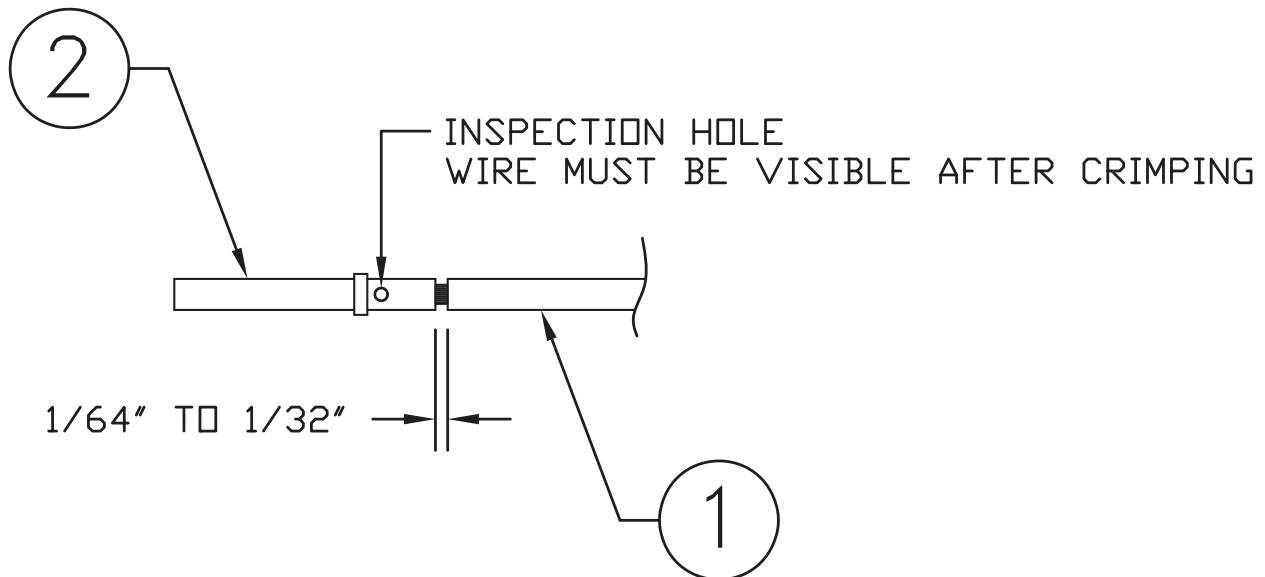
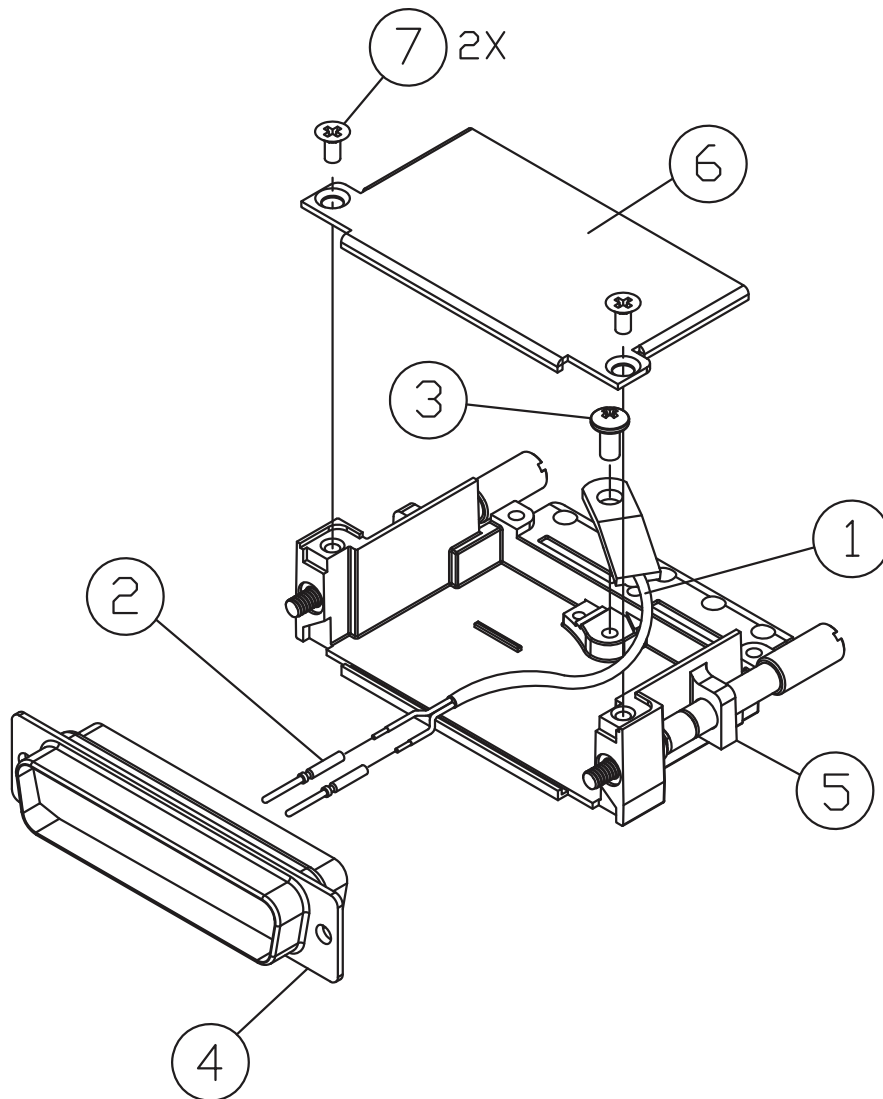

Figure 22-10 Insulation/Contact Clearance
Figure 22-11 Jackscrew Backshell Thermocouple Installation
Table 22-5 lists parts needed to install a Thermocouple, the item numbers correspond to Figure 22-10 and Figure 22-11. Parts for this installation are included in the Thermocouple Kit (011-00981-00), which is included in the G3X w/GSU 73 Installation Kit (K10-00017-00).
- Strip back approximately 0.17 inches of insulation from both the positive and negative thermocouple leads (item 1, Figure 22-10) and crimp a pin (item 2, Figure 22-10) to each lead. It is the responsibility of the installer to find the proper length of insulation to be removed. Wire must be visible in the inspection hole after crimping and the insulation must be 1/64 – 1/32 inches from the end of the contact as shown in Figure 22-10.
Refer to Figure 22-11 for all item numbers in the following steps 2-5.